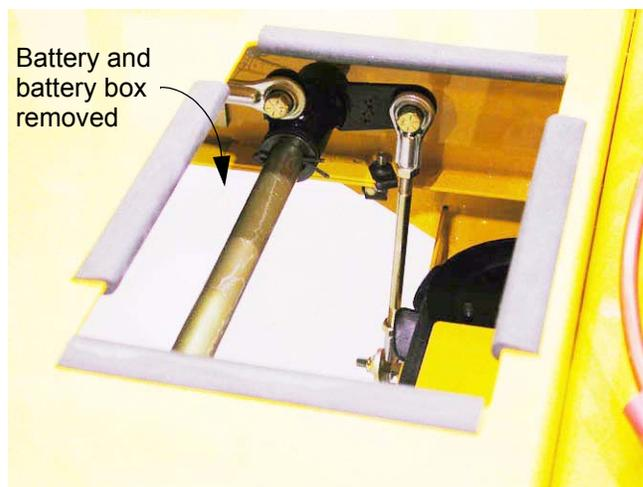

Figure 12.2
**NOTE:** Generous access to the steering link rods, bellcranks, and steering bellcrank shaft can be obtained by removing the battery box. See Figure 12.2.